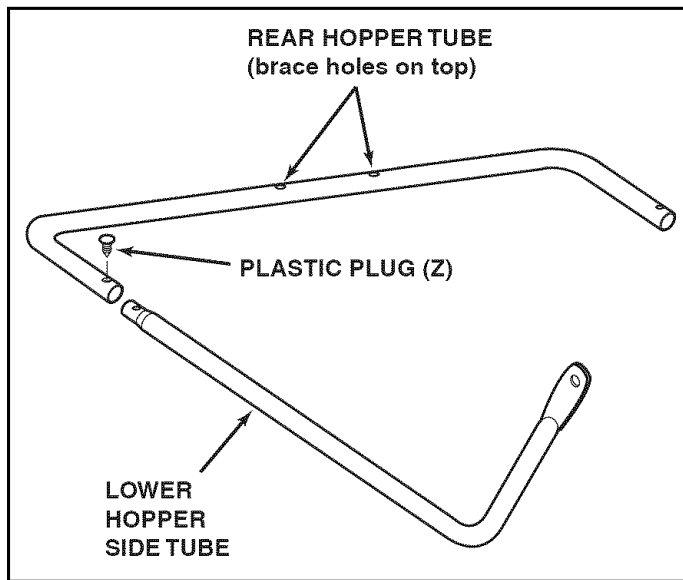

FIGURE 14
STEP 12: (SEE FIGURE 14 AND 15)
- Turn the second rear hopper tube so that the brace holes in the middle of the tube **face up**. Assemble the ends of the rear hopper tube onto the ends of the lower hopper side tubes. Fasten together using plastic plugs (Z).